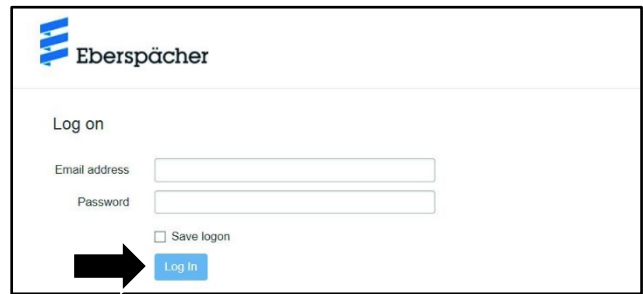

Figure 6
6. Enter the customers email address and password then click “Log In” (refer to Figure 6).